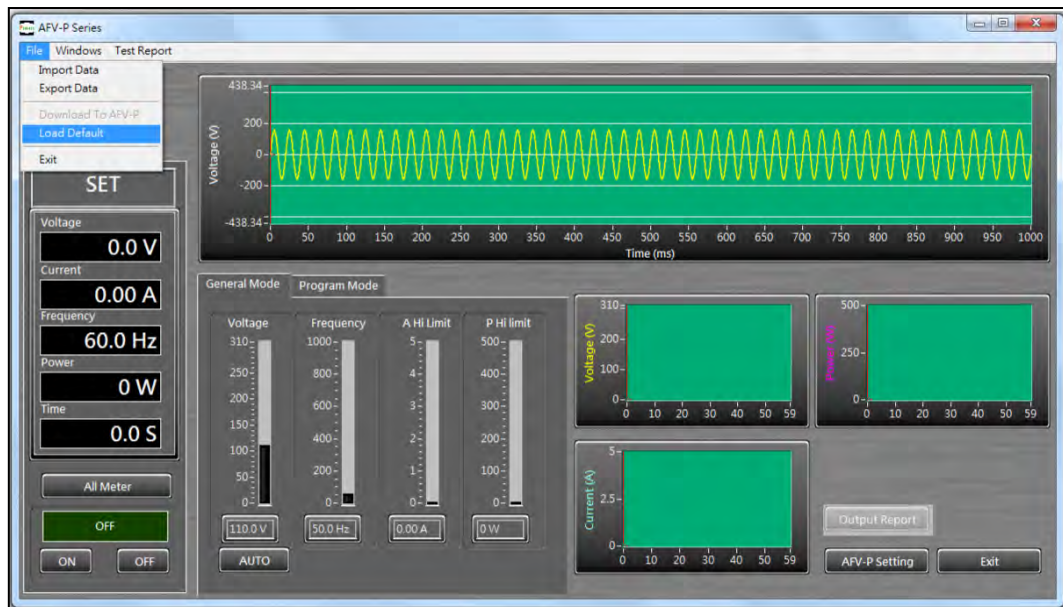

Figure 7.11 Item “File” and Item “Load Default”
- 1 Click the item “File”, and then click the item “Load Default” (see Figure 7.11).